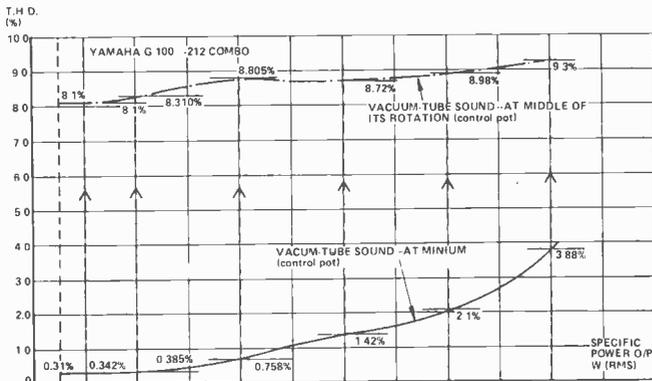

Figure 6.
Let's look at what the Japanese YAMAHA engineers call the 'vacuum tube' sound, and what Cambridge H.H. Electronics claim as the 'valve sound' — As can be expected both are 'combotype' designs in principle but designed as a real effort to simulate the valve 'character'. The Yamaha G 100B 212 amplifier's THD figures plotted against specific power output, ref. 1Kz is shown in fig. 6.